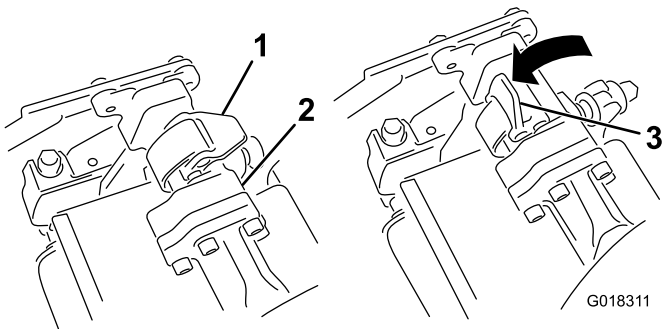
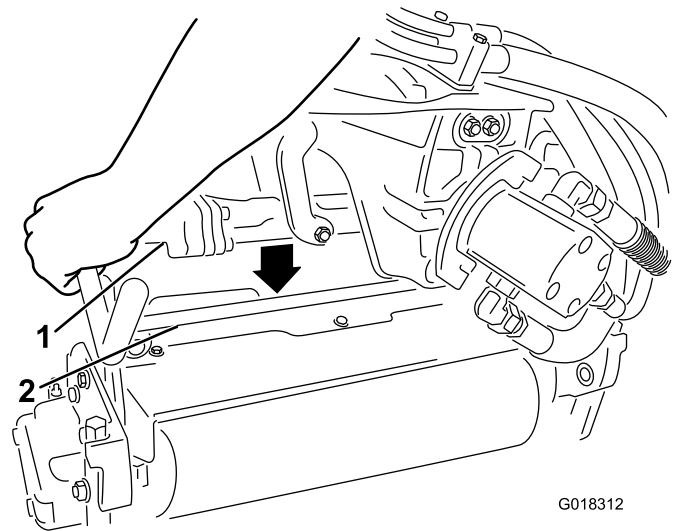

Figure 1
Figure 2
3. With the latches on the suspension-arm bar pointing up (i.e., Open)(Figure 1) push the suspension arm down so that the bar fits over the bar across the top of the tri-roller unit (Figure 2).
4. Close the latches down and around the tri-roller unit and lock them in place (Figure 1).